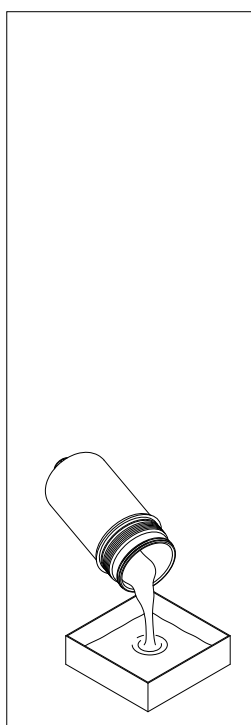

fig. 21
- (Fig. 21) If no drain plug is provided, empty the operating fluid from the bowl into the collection vessel